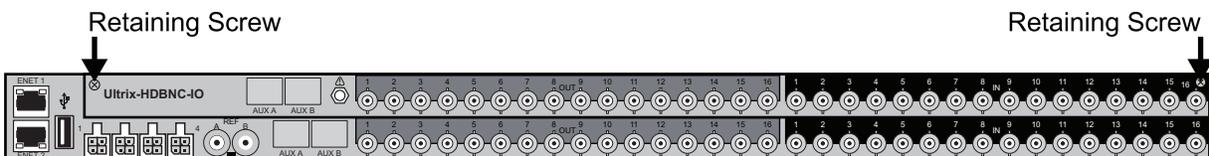

Figure 2 Ultrix Rear Panel — Location of Retaining Screws on the I/O Board
2. Disengage the retaining screws on either end of the I/O Board. Refer to **Figure 2** for screw locations.